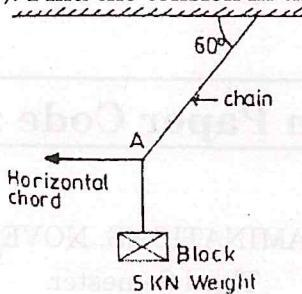

fig Q 11(b)
11. (a) Three coplanar forces are acting at a point as shown in fig Q 11(a). Determine the magnitude and the direction of the resultant force.
- (b) A block weighing 5kN is suspended from the ceiling by a chain. It is dragged aside by a horizontal chord until the chain makes  $60^\circ$  with the ceiling as shown in Fig Q.11(b). Find the tension in the chain and in the chord.